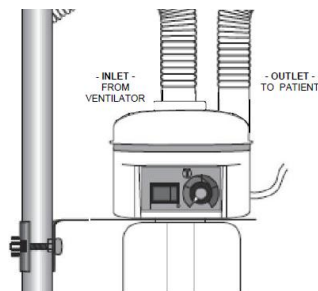

Figure 3
- Mount the Curaplex® Humidifier System on a convenient vertical surface using the P23000 bracket (Fig. 3), or the P23001 bracket when setting up the system with a Vision Ventilator.